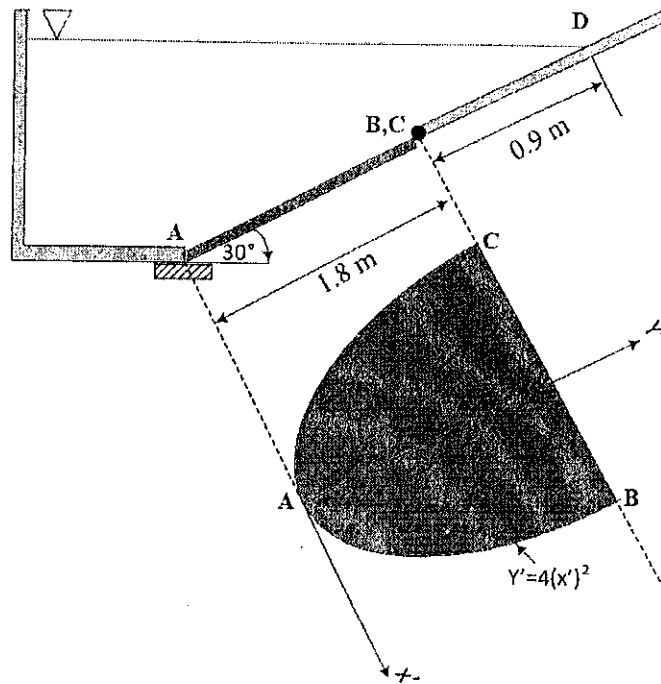

Figure Q2a
- Q2. a) The inclined face AD of the tank shown in Figure Q2a is a plane surface containing a gate ABC, which is hinged along BC. The shape of the gate is given the plan view. If the tank contains water, determine the magnitude of the force that the water exerts on the gate.